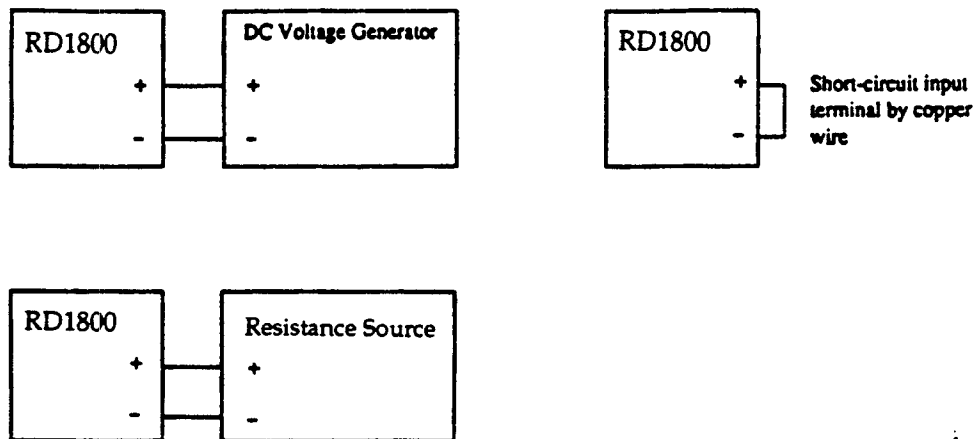

Figure A-3. Measurement Accuracy Test Connections
Required equipment is a dc voltage generator, with a DCV accuracy of ± 50 ppm (CL8500 or equivalent), and a resistance source, with an accuracy of ± 10 ppm. The connections are shown in Figure A-3.
1. Connect the equipment as shown in the upper left portion of Figure A-3
8. Connect the equipment as shown in the upper right portion of Figure A-3.
14. Connect the equipment as shown in the bottom left portion of Figure A-3.